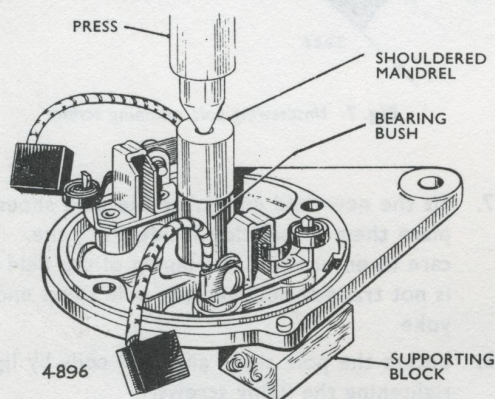

Fig. 8. Fitting commutator end brush
3. Insert the felt ring and felt ring retainer in the bearing housing, then press the new bearing bush into the end bracket, using a shouldered, highly polished mandrel of the same diameter as the shaft which is to fit in the bearing, until the visible end of the bearing is flush with the inner face of the bracket (See Fig. 8).